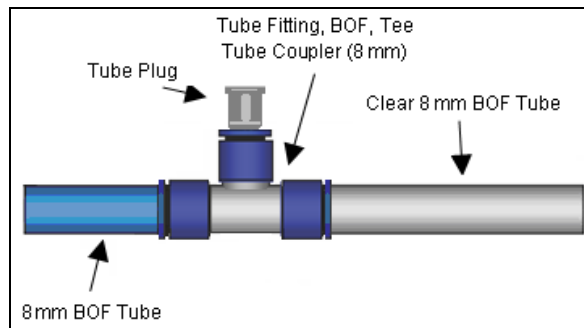

FIGURE 2L1-1. BOF tee tube coupler with clear BOF tube.
- Step 4 - Insert the BOF tube fitting plug into the tee end of the 8mm tee tube coupler. The finished configuration is shown in FIGURE 2L1-1.